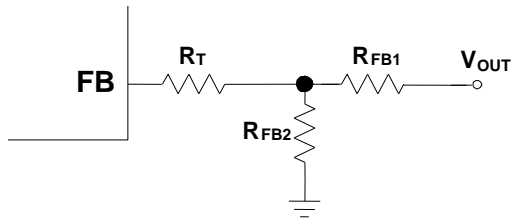

Figure 4: T-Type Feedback Network
The external resistor divider connected to FB sets the output voltage (see Figure 4). The feedback resistor (R1) also sets the feedback loop bandwidth with the internal compensation capacitor. Choose R_{FB1} to be around 40k Ω when $V_{OUT} \geq 1V$. R_{FB2} can then be calculated with Equation (1):
The T-type network is highly recommended when V_{OUT} is low (see Figure 4).